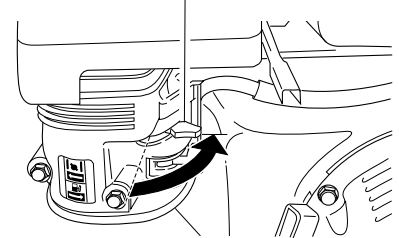

Figure 18 - Choke Lever Opened (Model MGH6500AIE Shown)
5. As engine warms up, slowly move choke lever fully to the right (see Figure 18). This opens the choke.